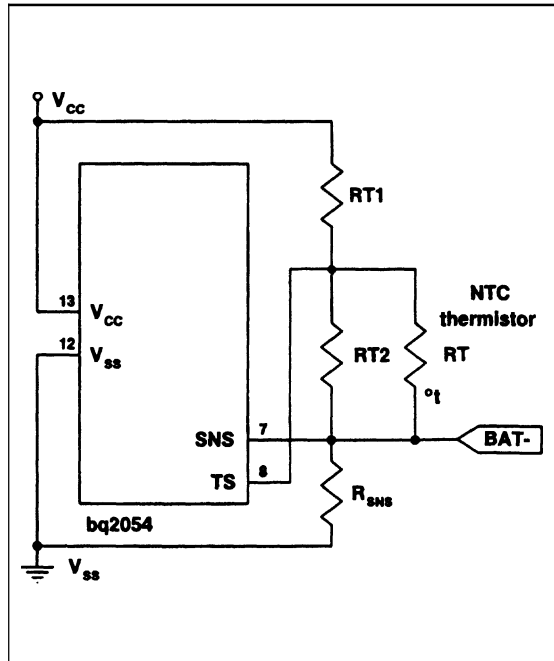

Figure 6. Configuring Temperature Sensing
**This** input is **used** to monitor battery temperature. An external resistor divider **network** sets the lower and upper **temperature thresholds**. See Figure 6 and Equations 3 and 4.
The current sense resistor, **RSNS** (see Figure 6), determines the **fast charge** current. The value of **RSNS** is given by the following:
A resistor divider network can be implemented that presents the defined voltage levels to the TS pin at the desired temperatures (see Figure 6).